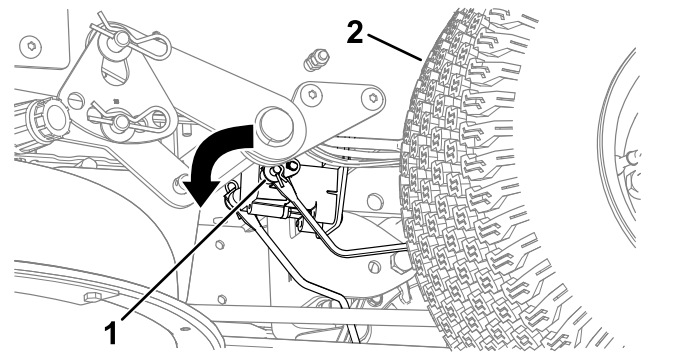

Figure 48
3. Locate the shaft on the electric brake where the brake link arms are connected (Figure 48).
4. Rotate the shaft to release the brake (Figure 48).